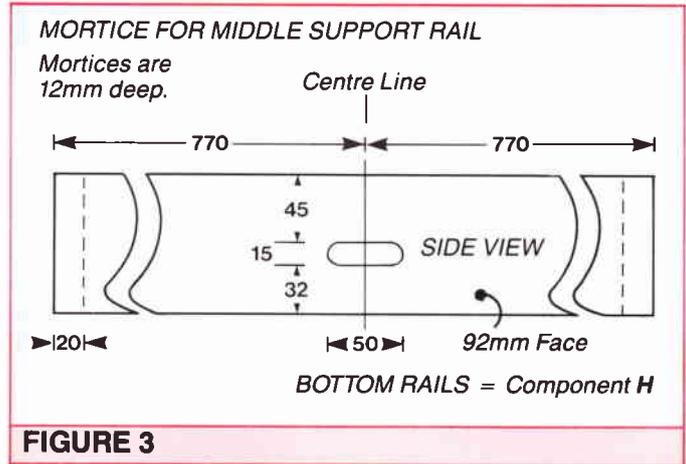

FIGURE 3
Mark out the mortice required in each of the two bottom rails (H), needed to take the middle support rail I, **Figure 3**.
Cut the mortices required in the bottom rails **H** to take the middle support rails **I**. These mortice positions require special setting up. Refer again to **Figure 3**. And note that the depth of this mortice is only 12cm.
Check the measurements of the middle support rail **I**, and cut the tenons to fit the mortices. How accurately you have cut and fitted the side rails will determine the exact length. The tenon sizing can be determined from study of the mortice detail drawing **(Figure 3)** . . . shoulders are 8.5mm.